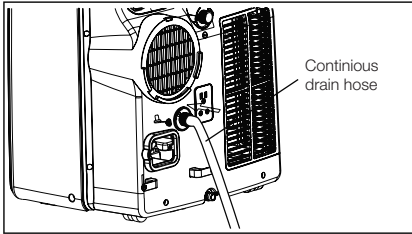

Fig. 26
- 2. During the Heating mode, you will need to connect a drain hose to the rear of unit as Fig.26